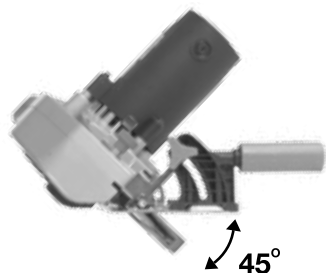

FIG 7
3. Tilt the blade to the required angle. (Fig. 7)